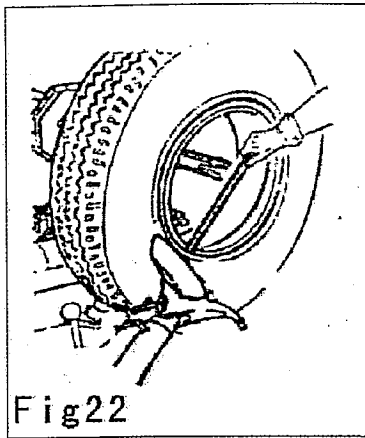
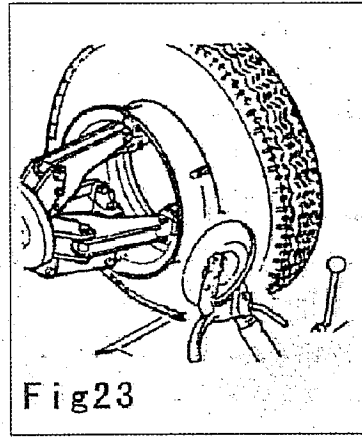

Fig 22
Fig 23
- (5) (fig. 22) move the position with the split ring to the edge of the rim with the lever, then use the bring the disk against the split ring. Turn the spindle counterclockwise until the split ring is completely off.
- (6) Insert the valve inside of the rim (so as not to damage during the demounting)
- (7) Move the tool holder (9) to its non-working position, and move it to the inner plane of the wheel.
- (8) Lower the tool holder arm to its working position.
- (9) Position the disk close to the tyre until half of the tyre is detached from the rim.(fig. 23)
- (10) Move the tool holder to its non-working position.
- (11) Lower the spindle until the wheel touch the platform, the tyre is completely off from the bead. (take care to the valve)